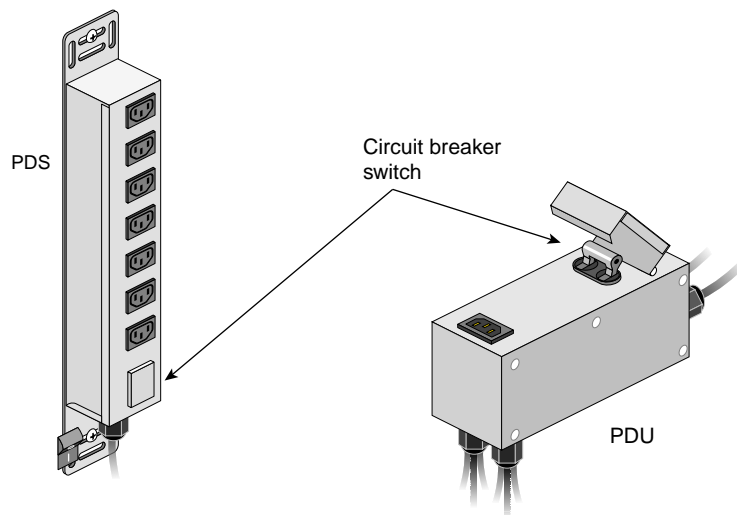

Figure 1-4 PDU and PDS Circuit Breaker Switches
4. Make sure that the PDU and PDS circuit breaker switches shown in Figure 1-4 are turned on to give power to the server system when the system is powered on.